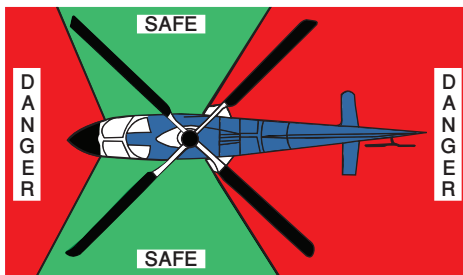

Figure 5. Helicopter Approach Zones, Top View
- Approach or depart the helicopter from either side quadrant to avoid the main and tail rotors. **Never** approach from the front quadrant or walk under the tail rotor (see Figure 5).